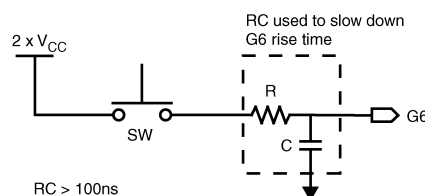

Figure 15. Circuit Diagram for Implementing the  $2 \times V_{CC}$
4. After  $V_{CC}$  is valid and stable, connect a voltage between  $2 \times V_{CC}$  and  $V_{CC}+7V$  to the G6 pin. Ensure that the rise time of the high voltage on G6 is slower than the minimum in the Electrical Specifications. Figure 15 shows a possible circuit diagram for implementing the  $2 \times V_{CC}$ . Be aware of the typical input current on the G6 pin when the high voltage is applied. The resistor used in the RC network, and the high voltage used, should be chosen to keep the high voltage at the G6 pin between  $2 \times V_{CC}$  and  $V_{CC}+7V$ .